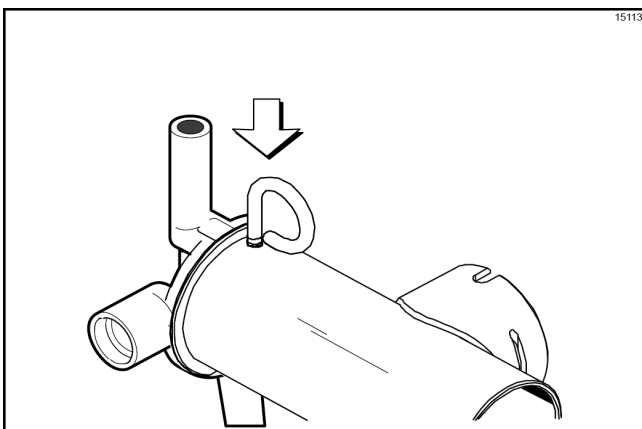

Figure-151
9. Secure the pump parts in position by sliding the retaining pin through the cross holes located at one end of the pump cylinder. (See Figure-151.)